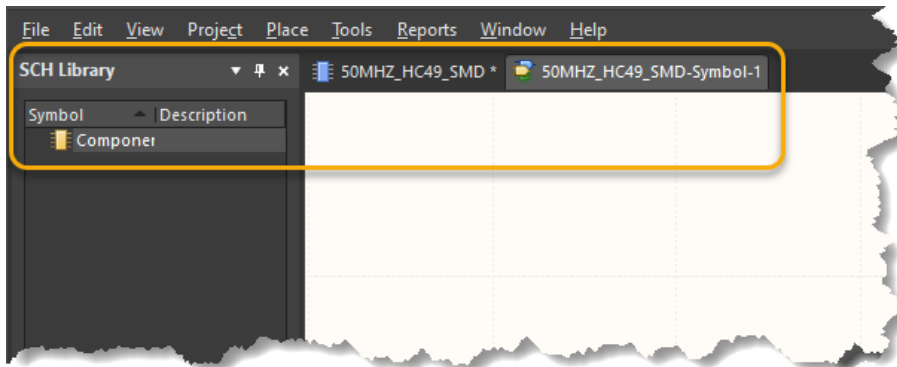

Figure 9. New Schematic Symbol Document
11. A new schematic symbol document will be added to the document bar, Figure 9.